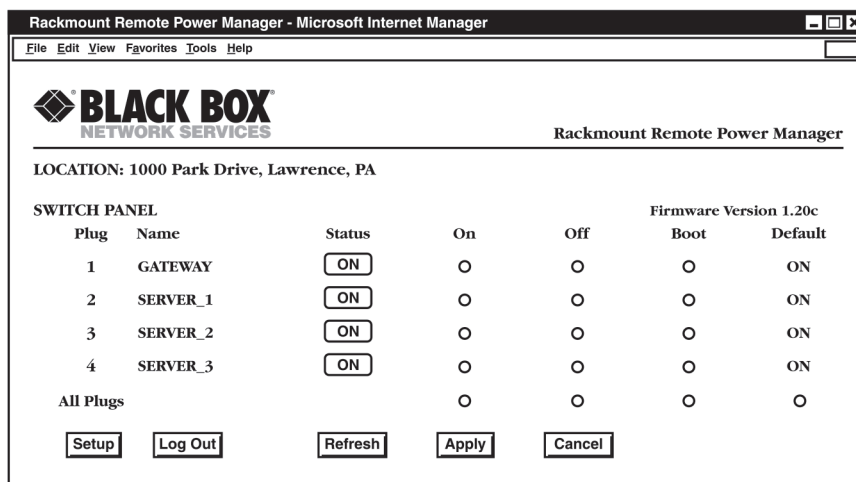

Figure 2. Plug Status screen—Web-browser interface for PS580A-R2 and PS581A-R2.
- a) From the Web-browser interface, start your JavaScript enabled Web browser. Enter the Rackmount Remote Power Manager's default IP address (<http://192.168.168.168>) in your browser's address bar, then press [Enter]. A password prompt will be displayed. Since at this point the user name and password have not yet been defined, simply click on OK without typing in a user name or password. The Rackmount Remote Power Manager's Plug Status screen appears as shown in Figure 2.